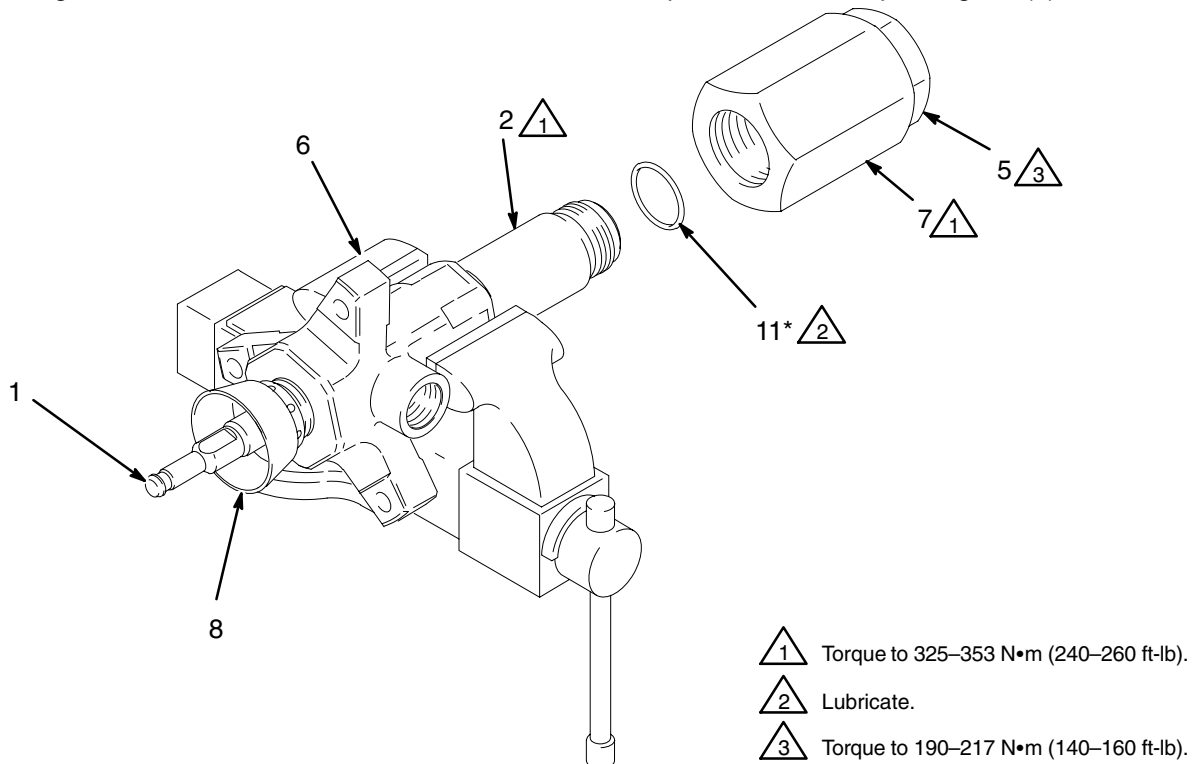

Fig. 8
5. Lubricate the threads of the packing nut (8), and loosely install it in the outlet housing (6).
6. Lubricate the piston packings. Slide the displacement rod (1) and piston assembly down into the cylinder (2). The cylinder is symmetrical, so either end may face up. Use a rubber mallet to drive the rod into the cylinder, until the piston seat housing (10) is located in the middle of the cylinder.
7. Install the seal (11*) on the top of the cylinder (2). Lubricate the seal and the top threads of the cylinder.
8. Place the outlet housing (6) in a vise, as shown in Fig. 8. Slide the displacement rod (1) up into the outlet housing, then screw the cylinder (2) into the outlet housing handtight. The threads will engage easily until the seal (11*) contacts the sealing surface of the outlet housing. The top of the rod will protrude from the packing nut (8).
11. Install the seal (11*) on the bottom of the cylinder (2). See Fig. 8. Lubricate the seal and the threads of the cylinder. Screw the intake housing (7) onto the cylinder handtight. The threads will engage easily until the seal contacts the sealing surface of the intake housing.
12. Using a pipe wrench, torque the intake housing (7) to 325–353 N•m (240–260 ft-lb). This will also torque the cylinder (2) into the outlet housing (6). See Fig. 8.
13. Using a 2–3/4 in. socket or a pipe wrench, torque the intake valve (5) to 190–217 N•m (140–160 ft-lb).
14. Torque the packing nut (8) to 61–75 N•m (45–55 ft-lb).